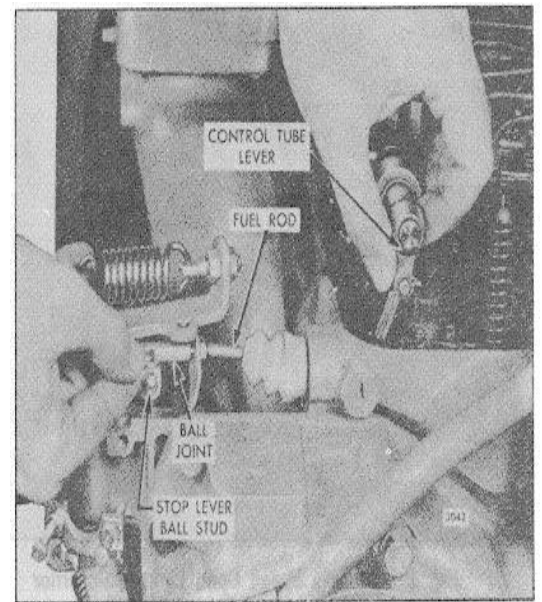

Fig. 4. Adjusting Fuel Rod Length
7. Loosen the nut which locks the ball joint on the fuel rod. Hold the fuel rod in the full-fuel position and adjust the ball joint until it is aligned and will slide on the ball stud on the stop lever (Fig. 4). Position the shutdown cable clip and tighten the fuel rod lock nut to retain the adjustment.